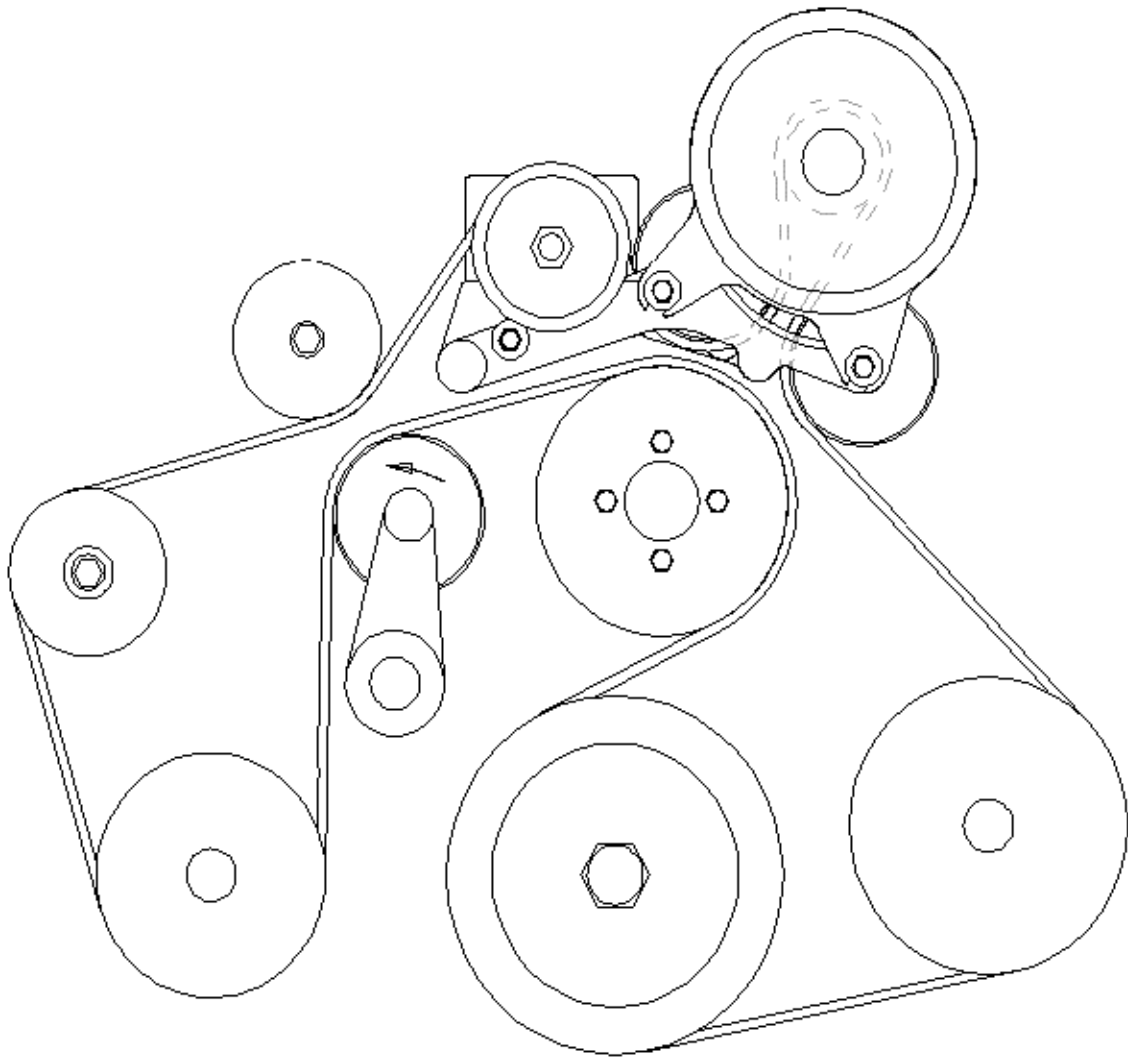

FIGURE 2
59. Mark hole locations in windshield wiper motor cover using pattern supplied on Figure 2. Check for proper location using tank, and drill holes (1/4" drill).
62. Route the supplied drive belt appropriately and position the alternator bracket. Retain with 2 bolts and loosely tighten. (Study Figure 2 thoroughly before attempting this step.)
**ENGINE DEVELOPMENT INC.** 2521 Palma Dr., Ventura, CA 93003 (805) 658-8262 fax (805) 658-8645